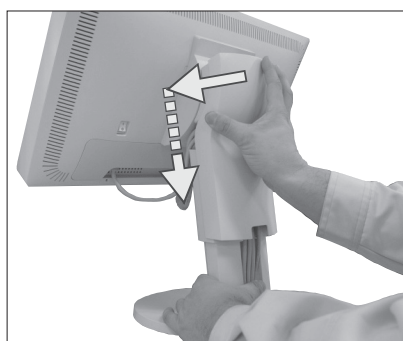
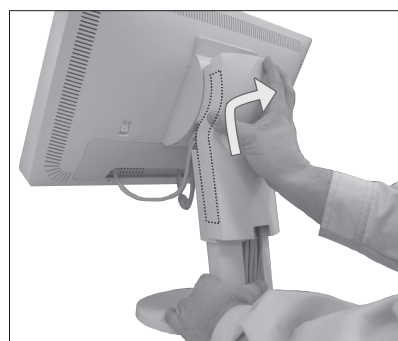

Figure C.5
Figure C.6
11. Hold all cables firmly and place the cable cover onto the stand (**Figure C.5**). To remove the cable cover, lift the cover off as shown in **Figure C.6**.